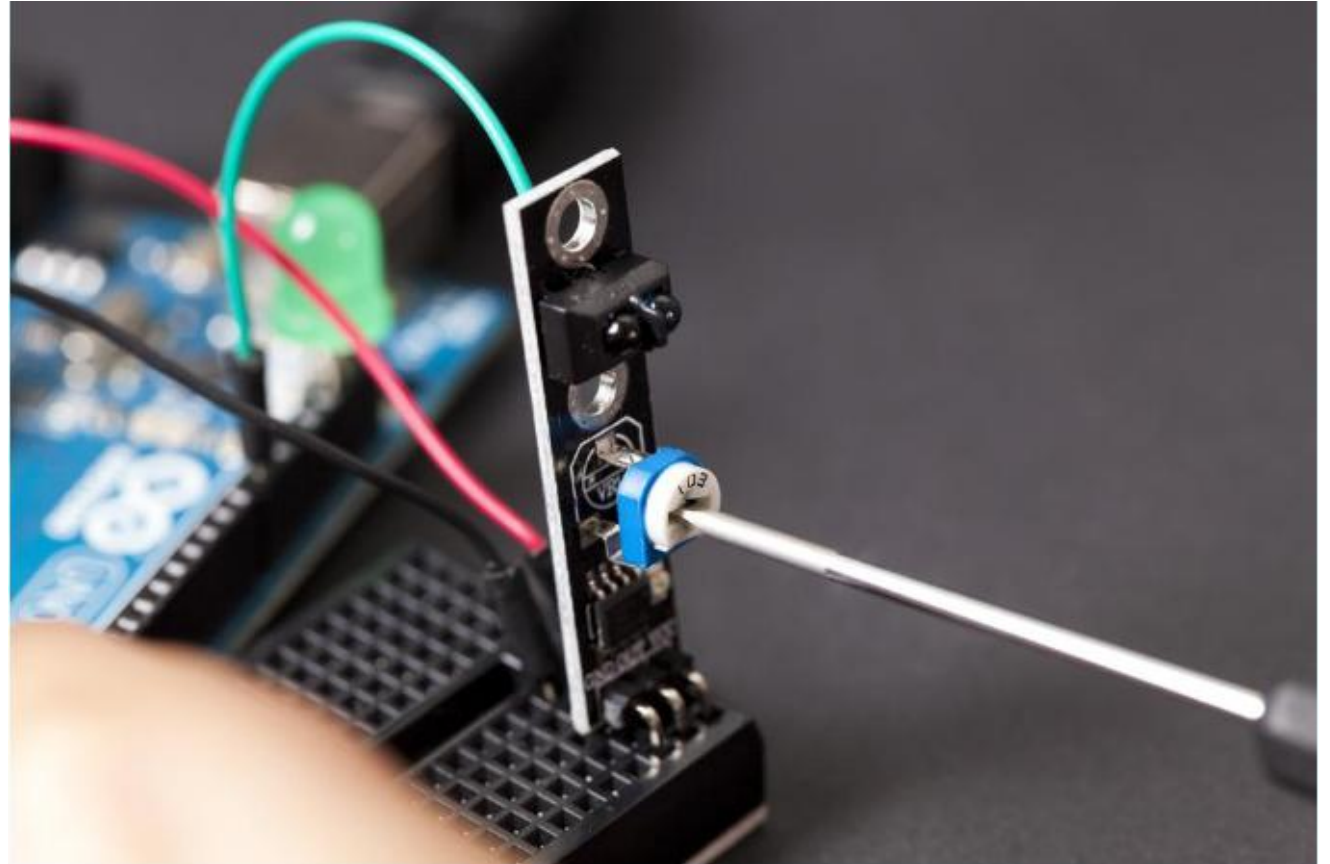

Figure 7-18. Adjusting line detector's sensitivity
- You can adjust the line follower sensitivity by adjusting its onboard potentiometer as shown in Figure 7-18.